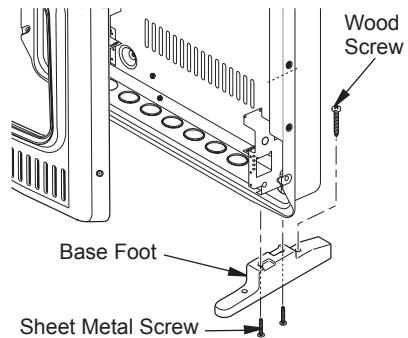

Figure 13 - Installing Base Feet
2. Align holes in base foot with mounting holes on bottom of cabinet (see Figure 13).